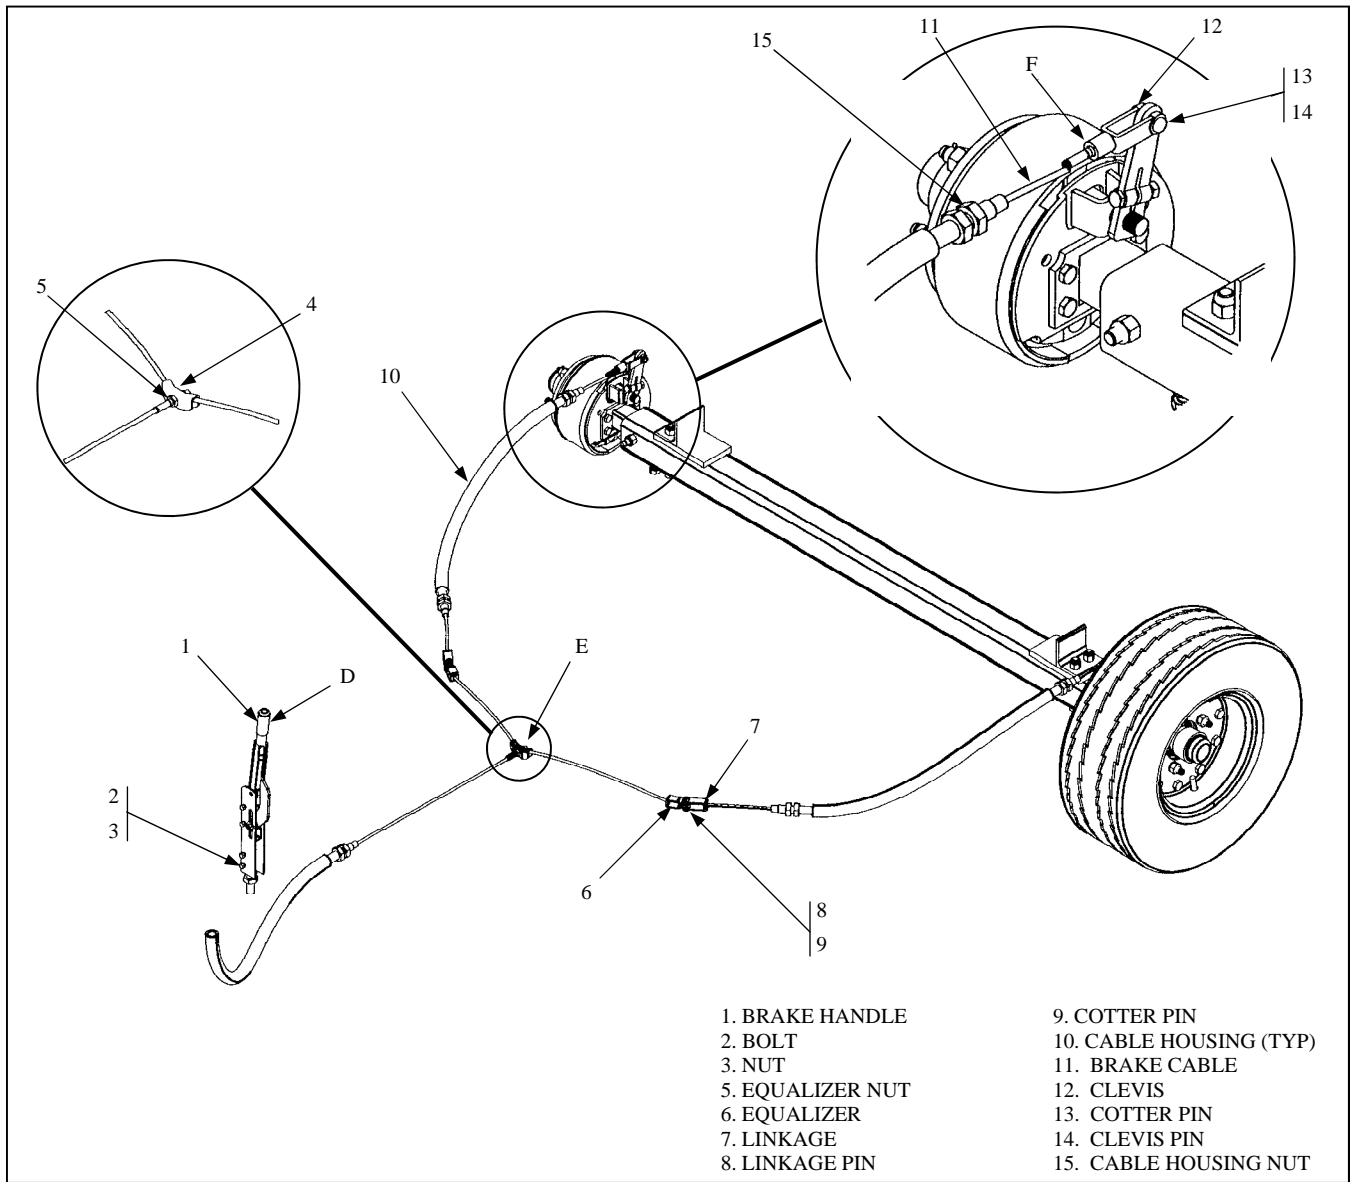

Figure 5-19. Brake Handle and Cable Assembly
5.3.9.3.1 Brake Handle and Cable Assembly. The brake handle and cable assembly only need to be disassembled to the point that the repair is needed. These instructions start at the wheel assembly and progress toward the brake handle. See Figure 5-19.
- a. Remove cotter pin (13) and clevis pin (14) to release clevis (12).
- b. Unthread clevis (12) from cable (11).